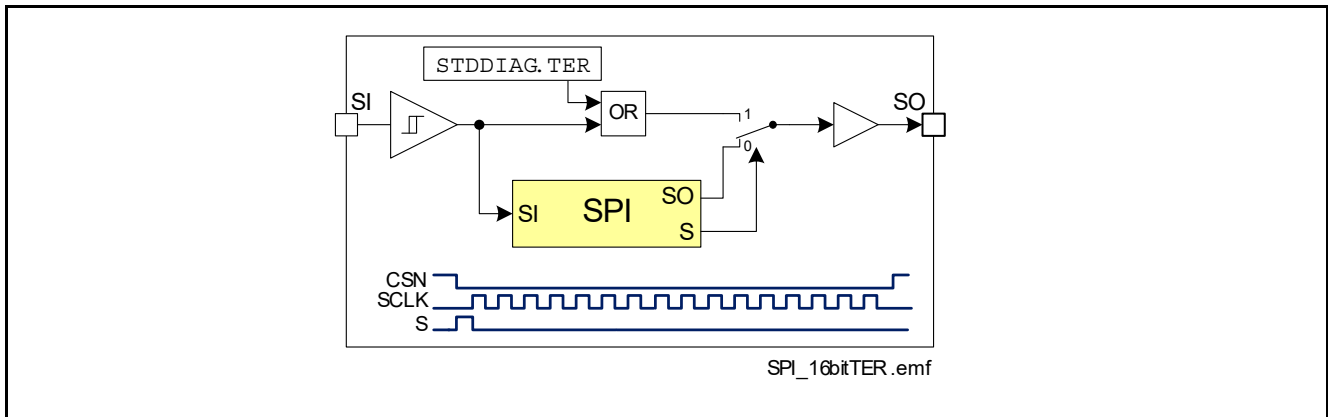

Figure 36 Combinatorial Logic for TER bit
- TER Flag will set the Bit number 10 in the STD diagnosis Frame. This Bit is set to HIGH after an undervoltage condition, reset via SPI command, on Limp Home state entering or after an incorrect SPI transmission. TER Flag can be read also directly on the SO line between the falling edge of the CSN and the first rising edge of the SCLK according to the Figure 36.